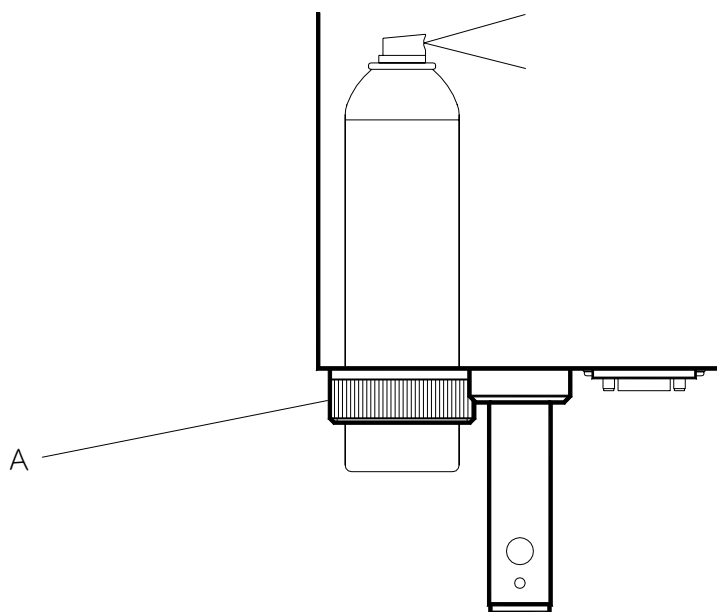

Fig. 5
- b) Ensure the locking ring "A" is in the released position by turning it anticlockwise (see Fig. 5)